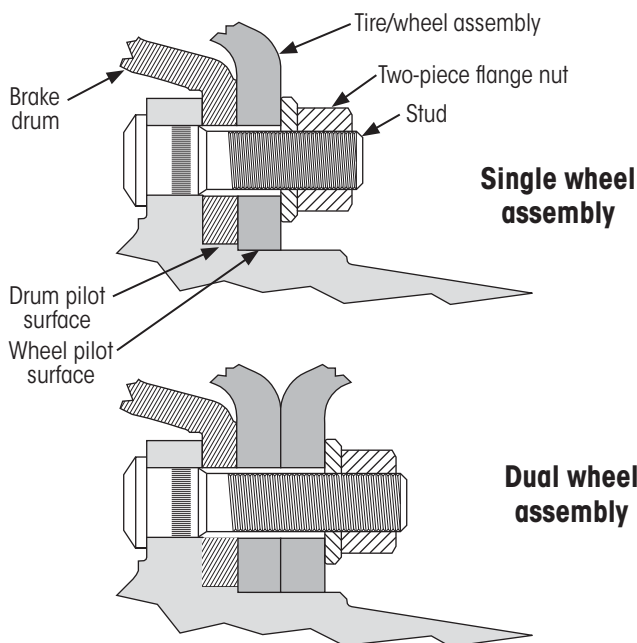
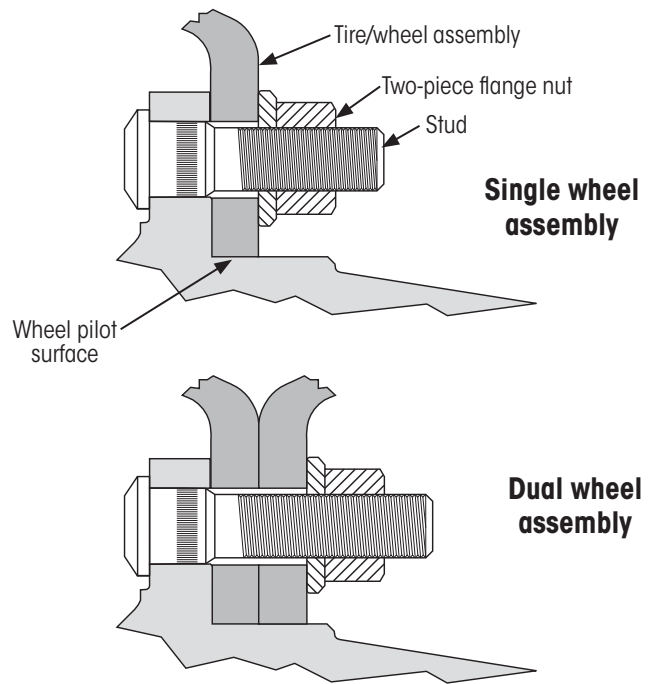

Figure 18: Drum hub piloted wheel mounting system
Figure 19: ADB hub piloted wheel mounting system
The entire wheel assembly is fastened together by a single two-piece flange nut on each wheel stud for both single and dual wheel applications. Figure 18 and Figure 19 show the difference between drum and ADB hub pilots.
3. **Mount** brake drum on hub so it fully seats on drum pilot and against hub face (Figure 18).